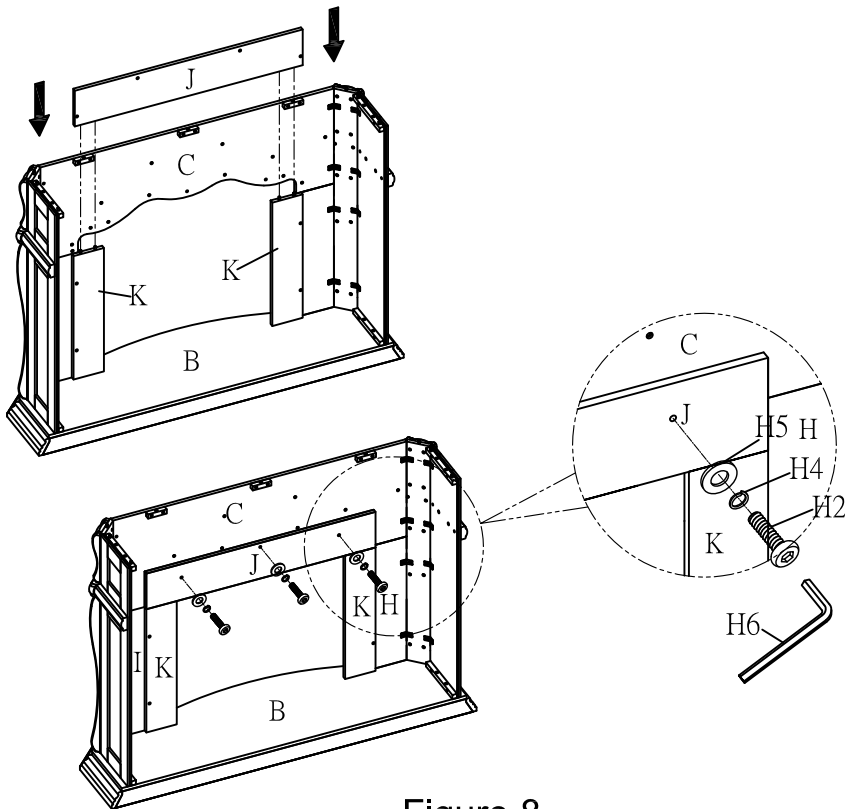

Figure 8
With assistance from other adults, place Top Rail (J) onto Side Rail (K) so the glossy side faces front and the tenons of Side Rail (K) fit into the holes of Top Rail (J). Attach Top Rail (J) to Front Panel (C) using Middle Bolt (H2), Spring Washer (H4), Flat Washer (H5) and Allen Wrench (H6) as shown in Figure 8. DO NOT fully tighten bolts at this time.